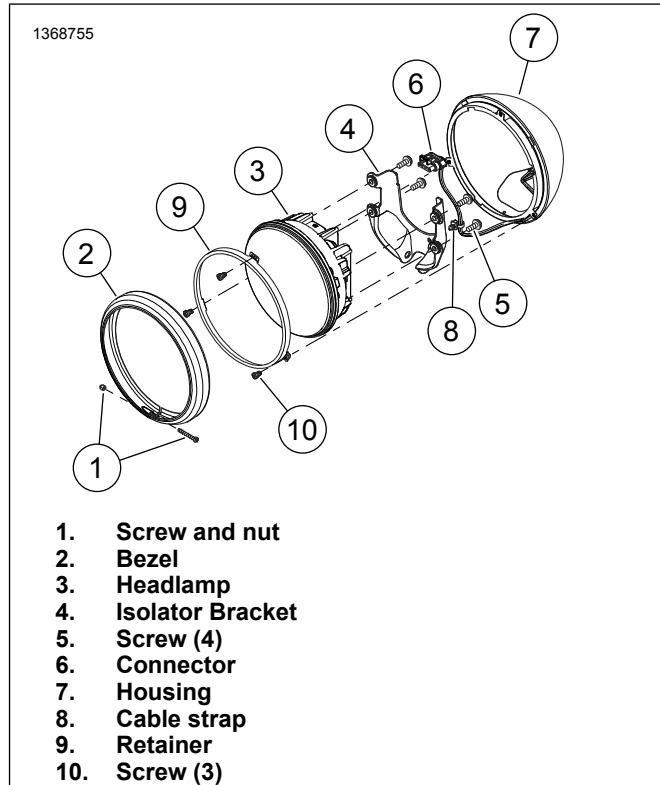

Figure 6. Round Headlamp
2. See Figure 6. Remove headlamp (3). See service manual.
- See Figure 6. Torque screws (5) to 11.5-14.2 Nm (102-126 in-lbs).
1. See Figure 6. Install headlamp (3). See service manual.